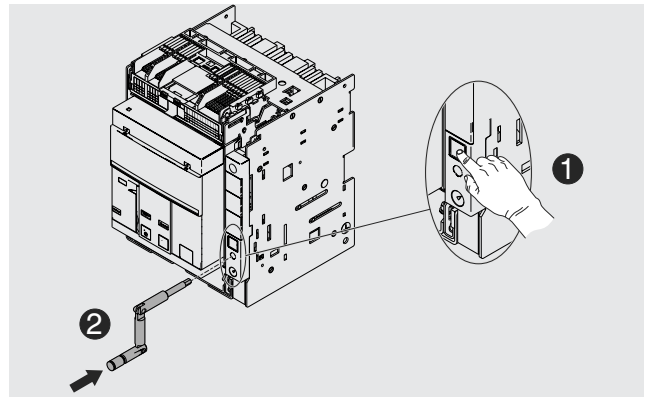

Figure 58
5. Press the lock pushbutton and fit the handle into the moving part. In this phase, the moving part will still be in the **DISCONNECT** position. See Figure 58.